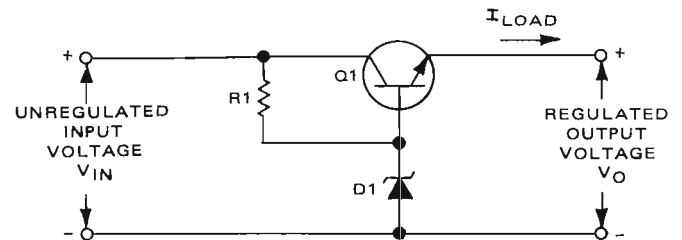

Fig. 1. In this simple series-pass fixed-voltage regulator transistor $Q1$ controls the regulated output voltage, V_o .
Fig. 1. This photo sequence shows what happens when a dart hits a balloon. (A) The balloon is penetrated. (B) The balloon has collapsed. And (C) The dart's still in the air, but the rapidly exploding balloon is already a squiggly pile of rubber.
Two simple series-pass voltage regulators are shown in Figs. 1 and 2. Transistor $Q1$ in each of these circuits controls the output voltage; thus the collector-emitter voltage rating of $Q1$ determines the maximum input-to-output voltage. All the current delivered to the load passes through $Q1$. Therefore, the power dissipated in $Q1$ is $(V_{in}-V_{out})$ times I_{load} . If high input voltages and low output voltages and/or large load currents are necessary, it is possible that $Q1$ will have to dissipate large amounts of power. Obviously, under these conditions the regulator efficiency is low and the power rating (for the particular heat sinking) limits regulating capacity. For limited load variations, $Q1$ can be shunted by a resistor, thus shifting some power from $Q1$ to the resistor. The output voltage of the circuit (Fig. 1) is the zener voltage minus the base-emitter voltage of $Q1$. $R1$ must provide enough current to the base of $Q1$ and to $D1$ to keep the voltage of $D1$ above its knee at all times. If the temperature characteristic of $D1$ is equal and opposite that of the base-emitter junction of $Q1$, the output voltage will remain constant with temperature.
reasons. The first and most important to the commercial user is graphically illustrated in Fig. 1. The original waveform to be transmitted is shown in A. The waveform will suffer some degradation during transmission due to the characteristics of the transmission medium, as shown in B. If transmission must be accomplished over significant distances, the waveform must normally be amplified at periodic intervals. When using analog transmission, linear amplification is required in order to preserve the waveshape. Therefore, any noise or distortion that falls within
Fig. 1. During transmission, waveforms are degraded due to characteristics of the transmission media, but in a digital system, it's relatively easy to restore the original waveshape.